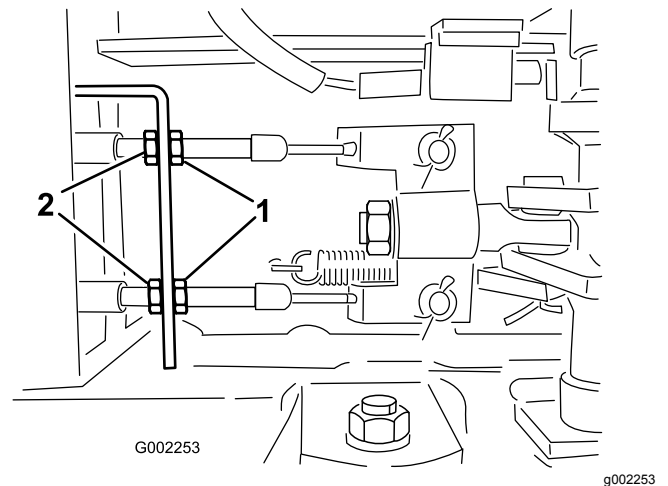

Figure 94
5. Loosen the front jam nuts on the brake cables under the front end of the sprayer (Figure 94).
6. Tighten the rear jam nuts equally until the brake pedal moves between 1 to 2 cm (1/2 to 1 inch) before you feel resistance (Figure 94).